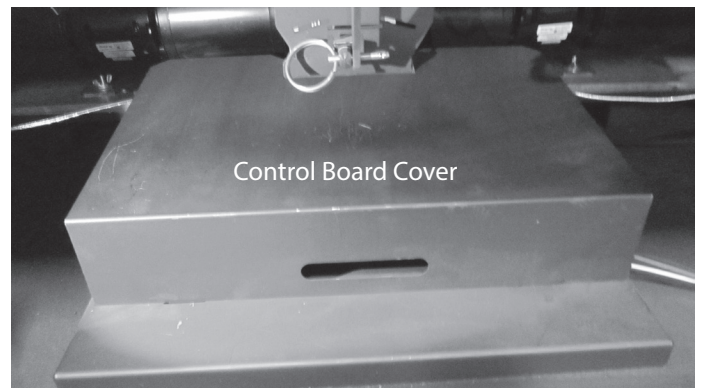

Figure 3.18 Control Board Cover
2. Remove the control board cover. See Figure 3.18